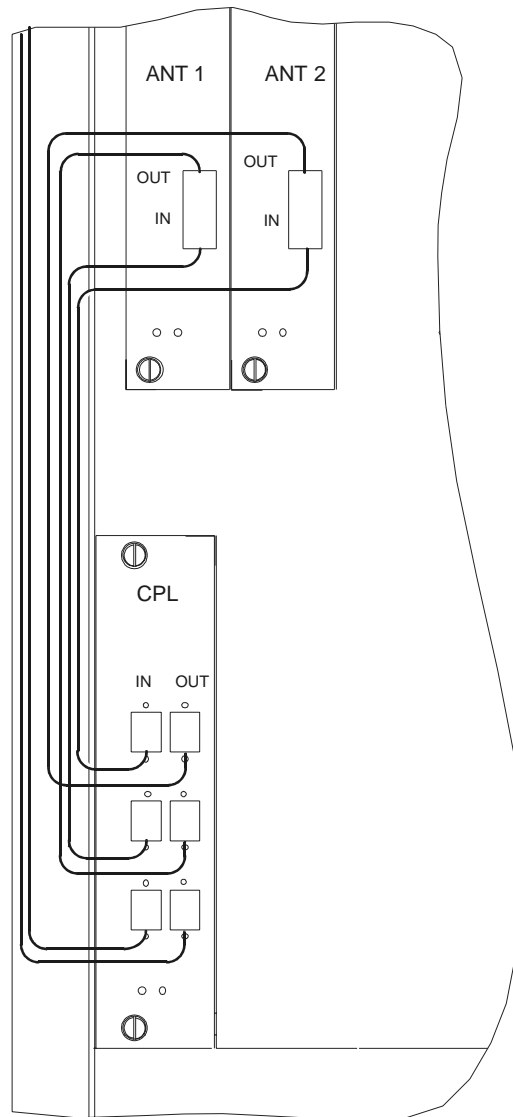
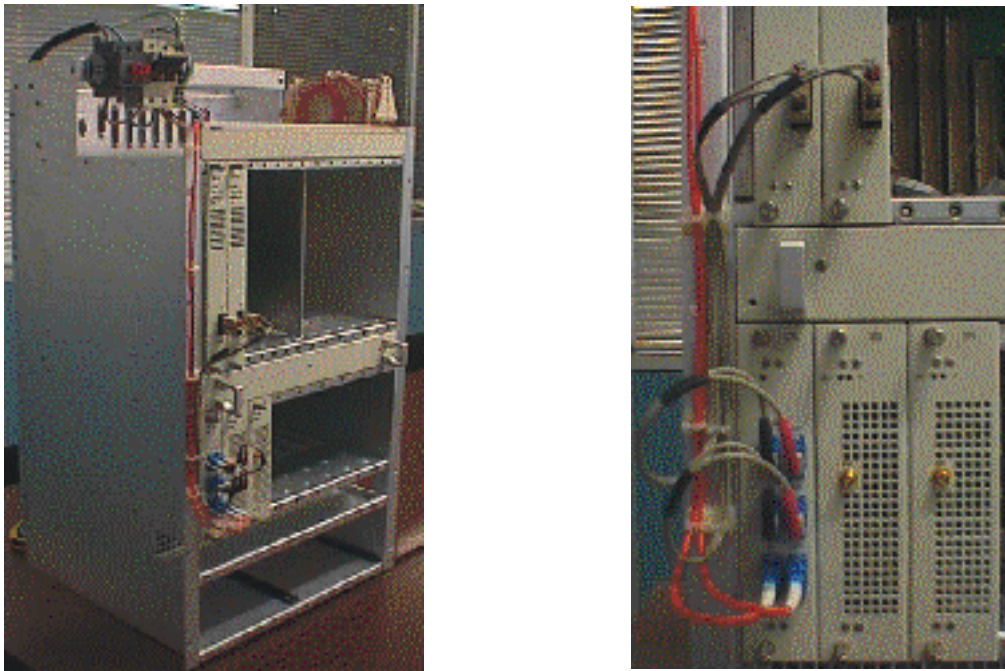

Figure 51 – Fiber optic cables connection
Figure 53 – Fiber optic cables wiring
- insert the jumpers in the direction indicated in *Figure 53 – Fiber optic cables wiring*,
2. Connect the fiber optic jumpers (see *Figure 51 – Fiber optic cables connection* and *Figure 53 – Fiber optic cables wiring*) and the main cables.